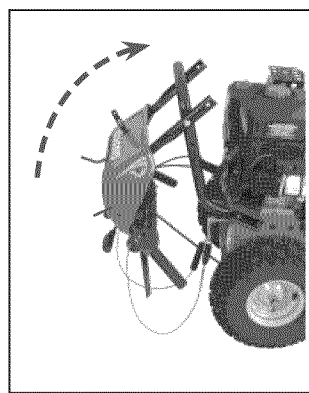

Figure 4A. Upper Handle Assembly
2. Rotate upper handle assembly (Figure 4A) up.